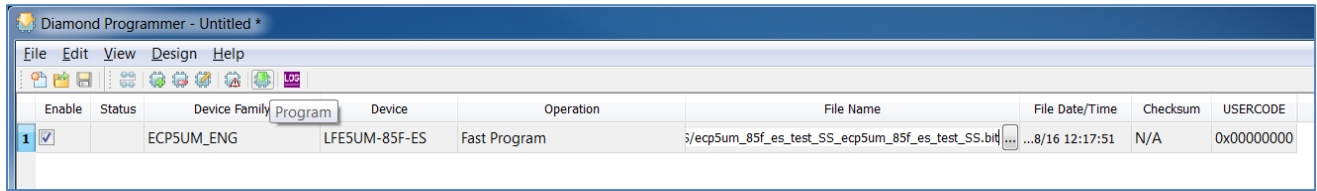

Figure 6.8. Program Icon
7. To start programming the device, click the **Program** icon  shown in Figure 6.8.